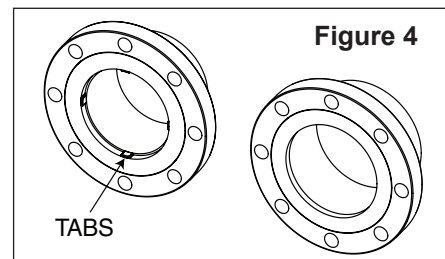

Figure 4
**CAUTION** Some off the shelf, non-Pentair, 6-inch flange adapters will not work with this pump without the strainer pot. Note the tabs on the flange on the left, (**Figure 4**). These tabs will interfere with the strainer pot alignment lip on the housing. This lip is used to locate the strainer pot on models that are so equipped. Please contact Pentair for a replacement flange adapter kit (P/N 357212).